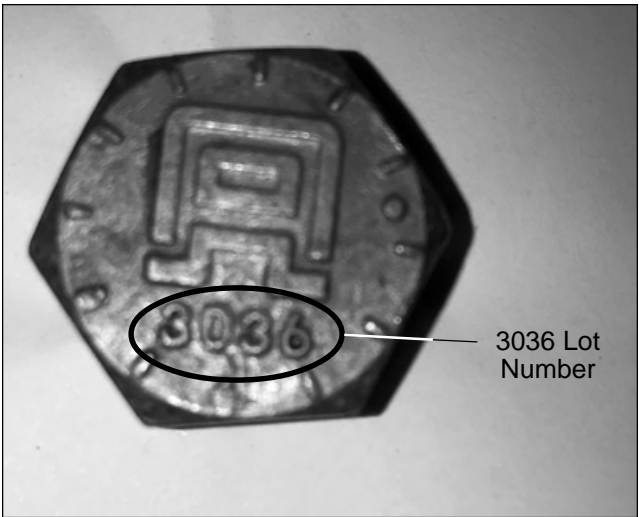

Figure 1 — Cap Screw Lot Number
- If any cap screw is marked with lot 3036 on the head of the fastener (refer to Figure 1), replace the cap screws in that race no later than 30 days after receiving this CSN.